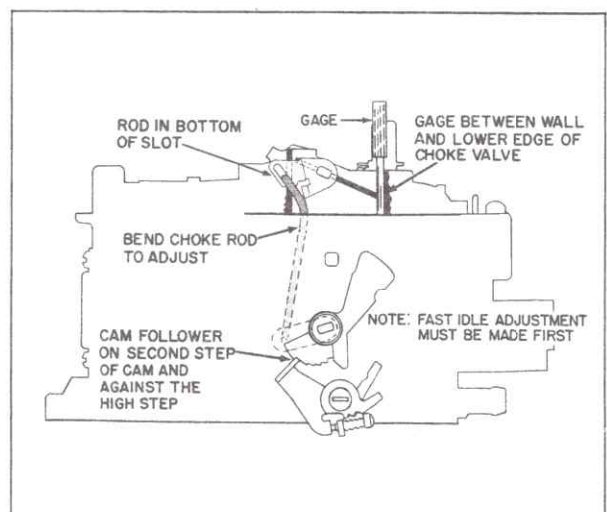

Fig. 6-100 Choke Rod Adjustment
## 79. Choke Rod Adjustment (Fig. 6-100)
3. Bend choke rod, Fig. 6-100, to adjust.